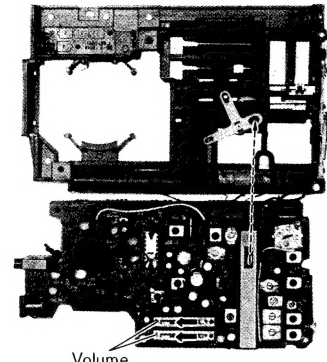

Fig. 10
3. Set band switch and lever to FM position and then insert the band switch in the hole of band switch lever, as shown in fig. 10.
4. Push the volume lever, in the direction of arrow, as shown in fig. 10.